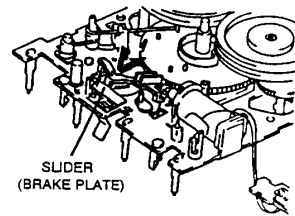

Fig. 6
- Reposition the slider (brake plate) in the arrowed direction. Make sure that the twisted coil spring is not out of position (fig. 6).